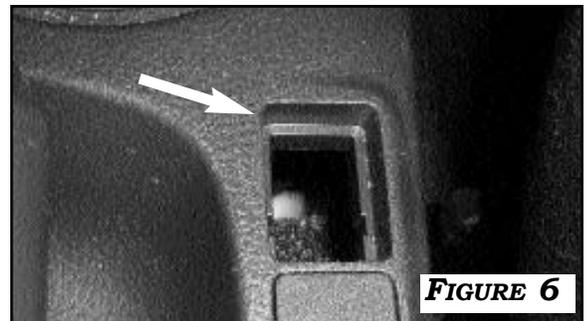

FIGURE 6
6. DISENGAGE THE 7 CLAWS AND OPEN THE INSTRUMENT PANEL LOWER FINISH PANEL. **FIGURE 6**